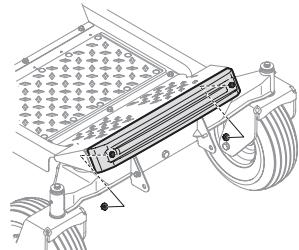

Figure 36
2. Position the weight bar onto the foot rest and secure it in place with two 3/8" flange nuts (712-04065) from the same hardware pack. See Figure 36.